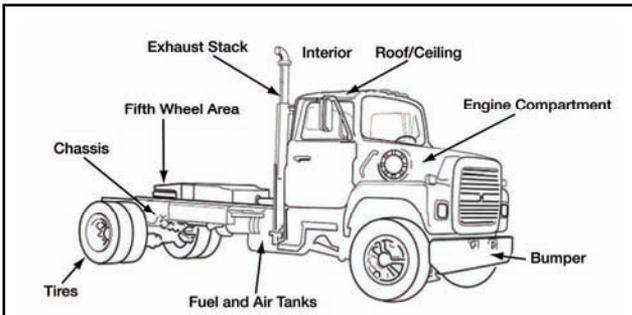

Figure 191-376-5141-1. Tractor
- a. Determine if the commercial vehicle is a tractor (see figure 191-376-5141-1).
- b. Determine if the commercial vehicle is a trailer (see figure 191-376-5141-2).